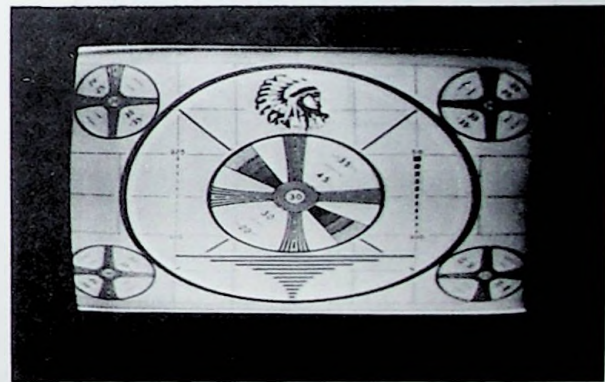

Fig. 6-34. Decreased vertical size.
3. Decreased vertical size (Fig. 6-34)